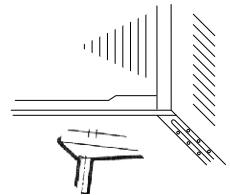

Fig.3
7. The condensate need to be led to the designated place, buy a soft plastic pipe with internal diameter of 16mm to connect the drain connecting pipe and tied it tightly. (See Fig. 3)